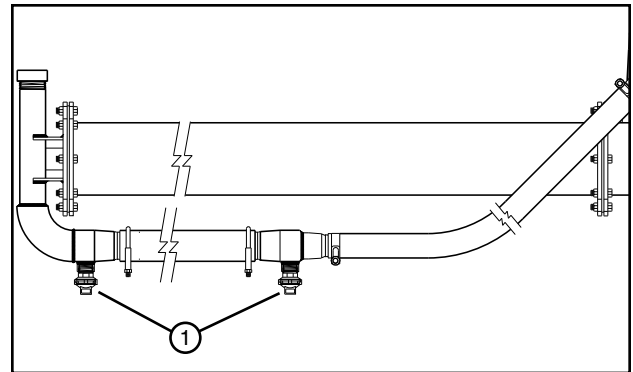

Figure 107-1 1. Booster Pump Hose Drain
- Make sure the booster pump hose drain is not plugged with sand or debris and the hose is completely drained See Figure 107-1.